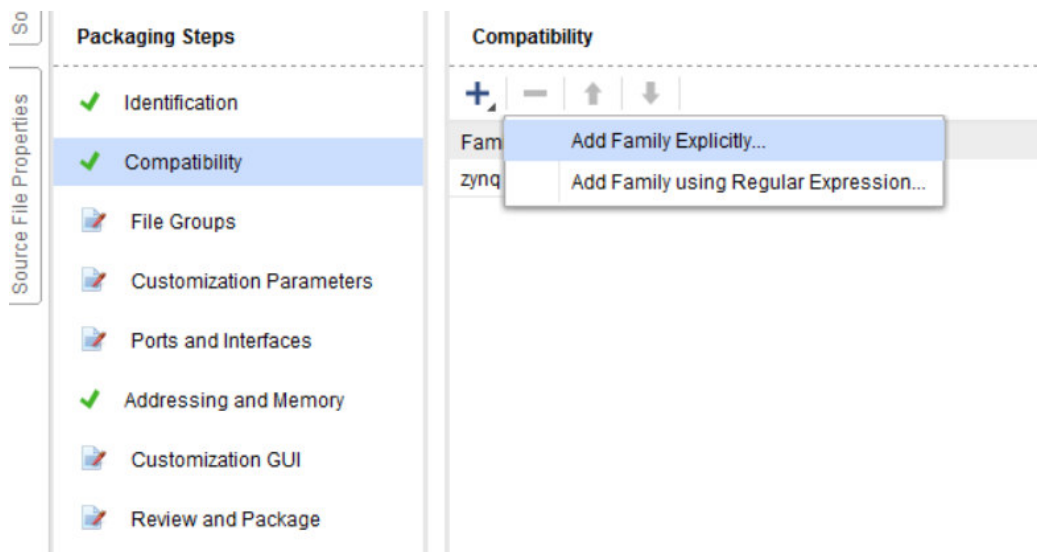

Figure 12: Compatibility IP settings
23. Next, click on the **Compatibility** tab. Click the + at the top of the window and click **Add Family Explicitly** as seen below in Figure 12. A window of Xilinx chip families will pop up. Select the **ZYNQ-7000** family as this is the chip on the **PYNQ** board and click **OK**.